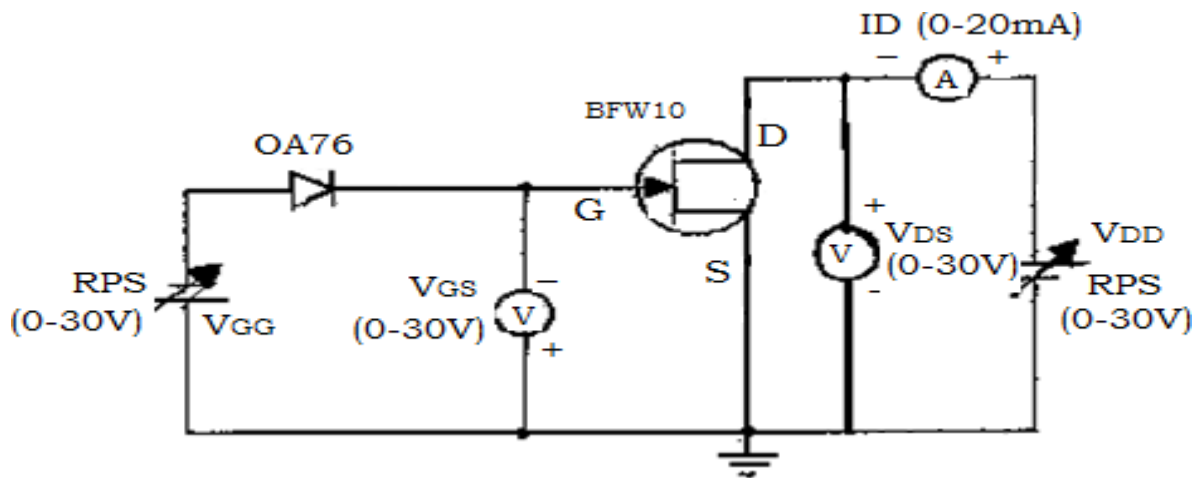

Figure 1 Circuit diagram for studying drain and transfer characteristics of given FET
- 1) Make the connections as per then circuit diagram of fig.1.